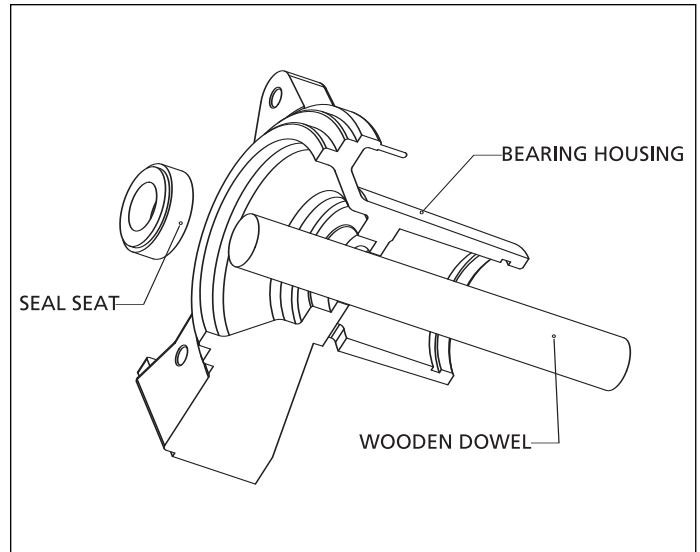

Figure 5 - Seal Seat Removal
6. Use a wooden dowel to push out the seal seat (part of Ref. No. 5) from the body (Ref. No. 4). (See Figure 5.)